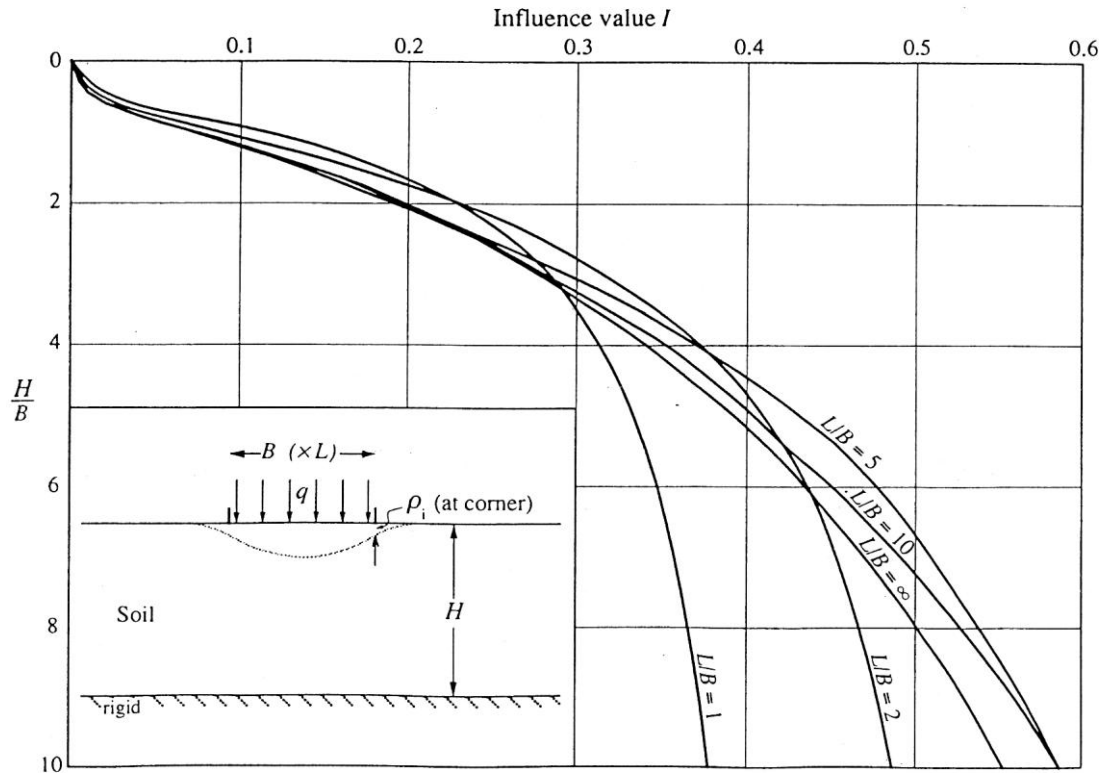

Figure Q2a
2. a) A flexible foundation of length 4m and breadth 3m is to exert a uniform pressure of 250kN/m^2 on the surface of a 10m layer of soil with a bulk unit weight of 20kN/m^3 . Using Figure Q2a, determine the immediate settlement under the centre of the foundation if the elastic soil stiffness (E) is assumed to be 6MN/m^2 .